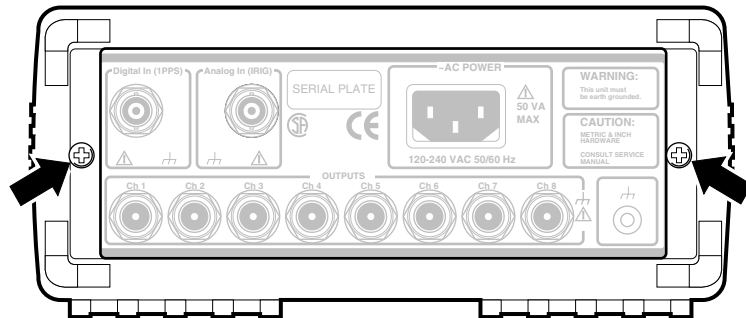

Figure 2-1. Rear Bezel Removal (59552A)
- 2 To remove the rear bezel, loosen the captive screws on the sides as shown in Figure 2-1 using the TORX 15 screwdriver.